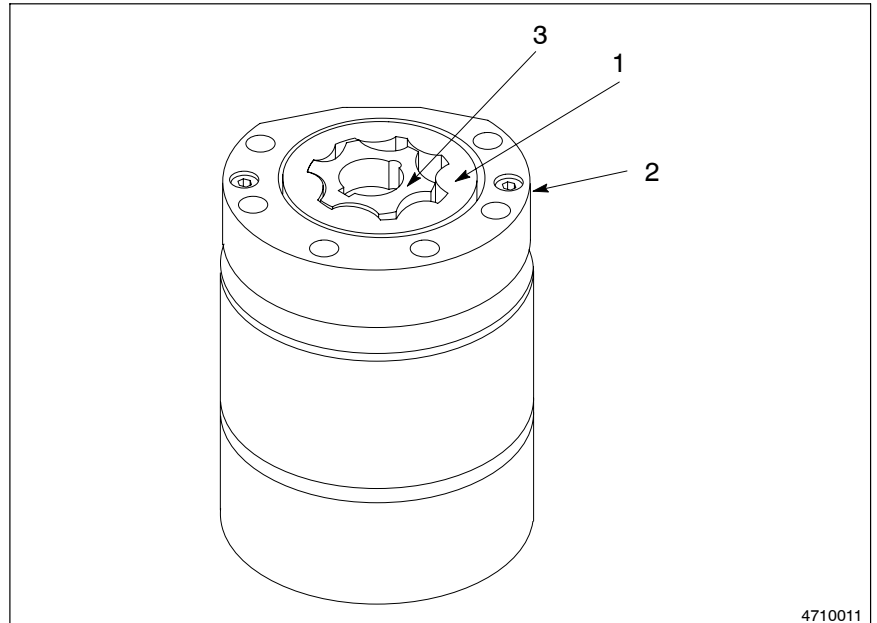

Fig. 7-30 Aligning the Gerotor Gears
6. See Figure 7-30. Align the new inner gerotor gear (3) with the outer gerotor gear (1) until the inner gear goes in place and is flush with the gerotor retainer (2) surface.